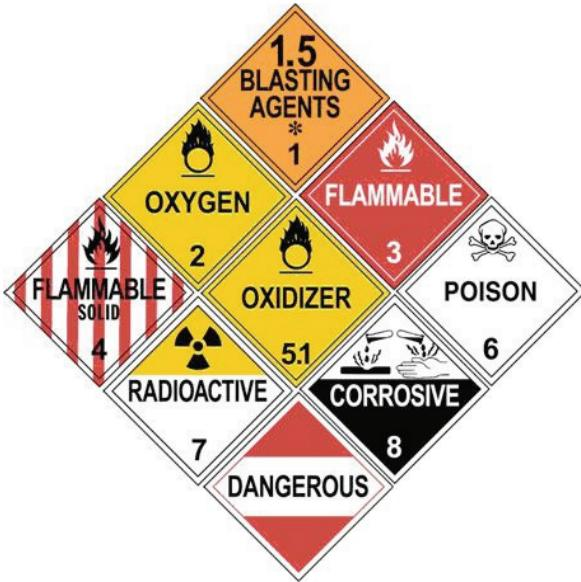

Figure 9.3 - Examples of HAZMAT Placards
**Placards.** Placards are used to warn others of hazardous materials. Placards are signs put on the outside of a vehicle and on bulk packages, which identify the hazard class of the cargo. A placarded vehicle must have at least four identical placards. They are put on the front, rear, and both sides of the vehicle. See Figure 9.3. Placards must be readable from all four directions. They are at least 10 3/4 inches square, square-on-point, in a diamond shape. Cargo tanks and other bulk packaging display the identification number of their contents on placards or orange panels or white square-on-point displays that are the same size as placards.